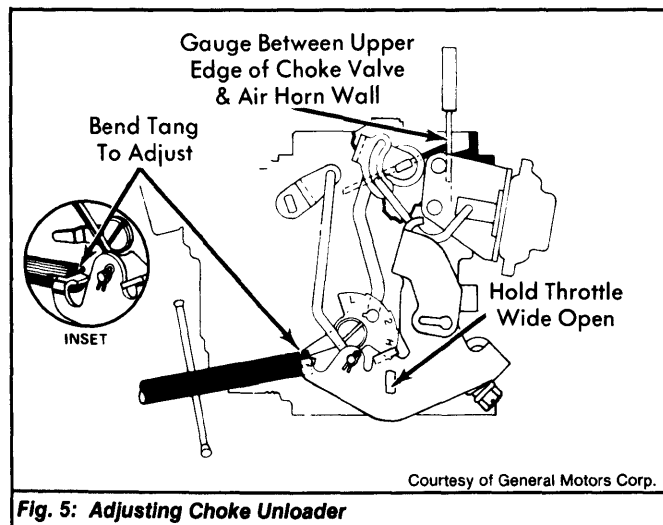

Fig. 5: Adjusting Choke Unloader
- 1) Hold throttle valve wide open. Apply light closing pressure to choke valve. See Fig. 5.